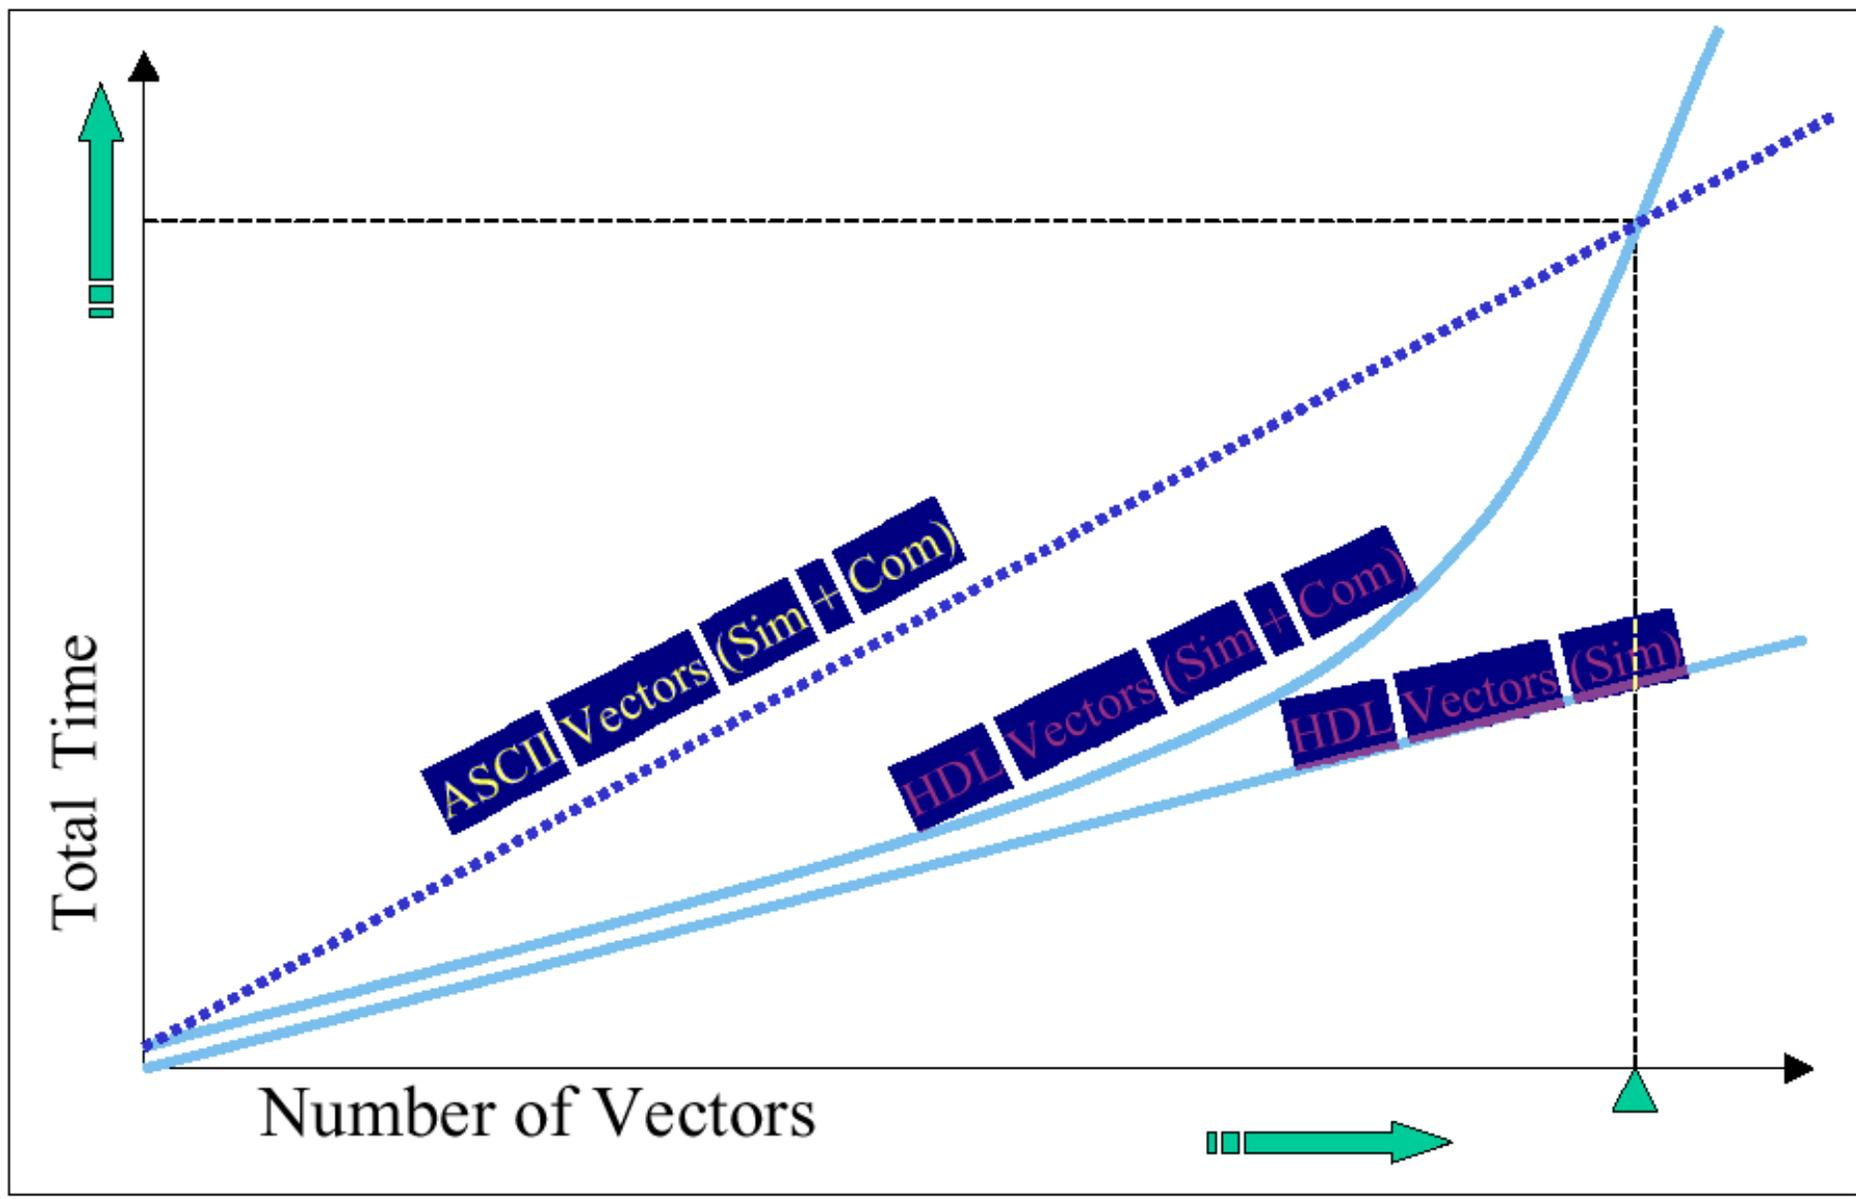

Figure 1: Vectors in ASCII vs. Vectors in VHDL
- Since compilation time grows in a non-linear fashion, at some point the compilation time will exceed the cost of ASCII vectors. Figure 1 below shows how the number of vectors affects total compilation and simulation time with the two approaches.